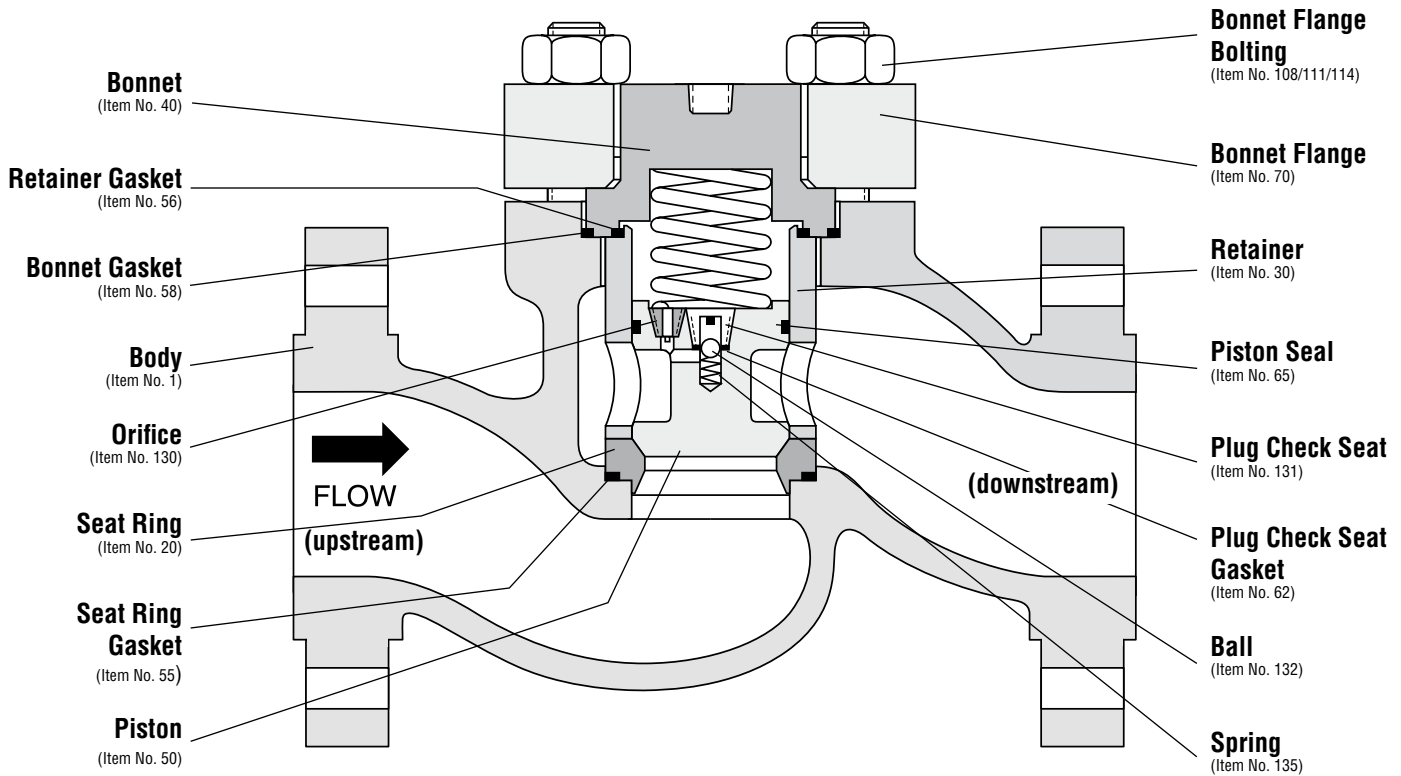

Figure 1: Non-slam Piston Check Valve
3. Double-check flow direction to be sure the valve is installed correctly. Flow direction is shown by the arrow attached to the bonnet flange. If flow arrow is not attached, refer to Figure 1 or 2 for proper flow direction (flow direction is always under the plug).
To disassemble the non-slam piston check valve, refer to Figure 1 and proceed as follows:
To reassemble the non-slam piston check valve, refer to Figure 1 and proceed as follows: